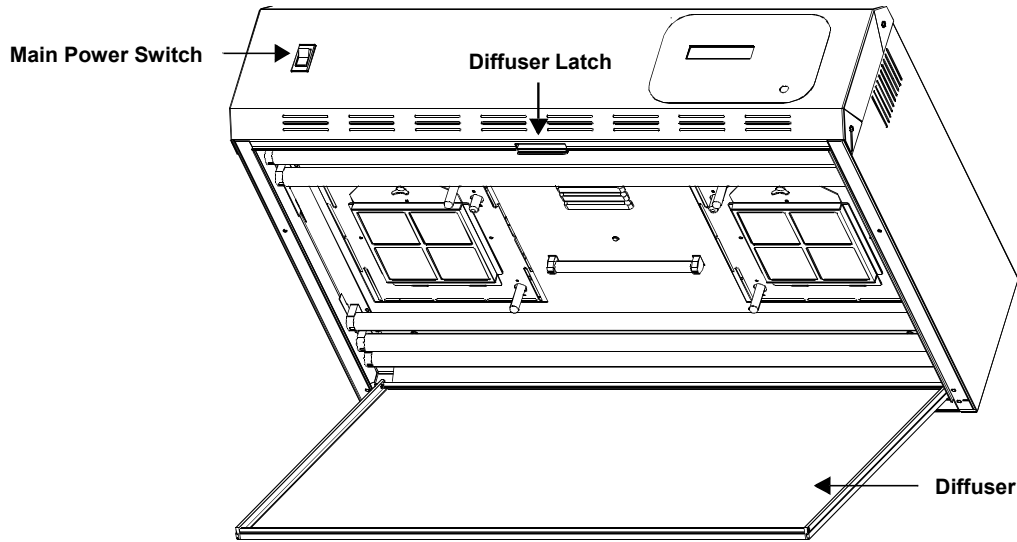
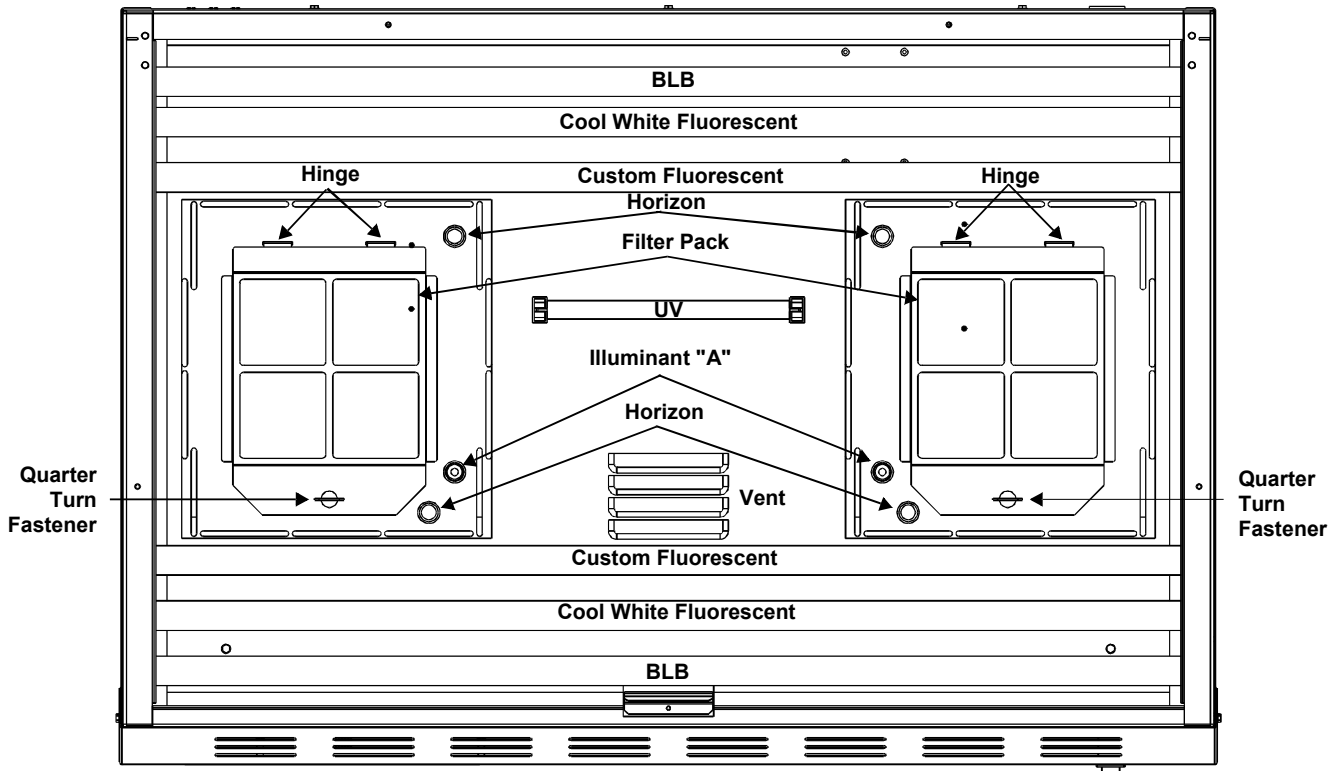

Figure 13. Open Luminaire
Figure 14. Filter and Lamp Location
To clean the unit; refer to Figure 13 and Figure 14, and proceed as follows:
6. Unscrew the quarter-turn fastener. See Figure 14 on the next page. Gently rotate the filter pack downward.
4. Unscrew the quarter-turn fastener (see Figure 14.) and lower the diffuser. Slide the filter packs sideways to remove them.